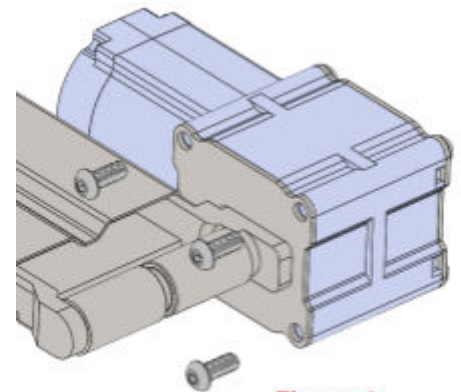

Figure 8
2. Remove the 4 bolts securing the motor to the conveyor using a 6mm hex key, then slide the entire motor off the drive shaft and set aside (See Figure 8). Take care to set aside the motor key with the motor. The key should be easily removable from the keyway in the shaft.